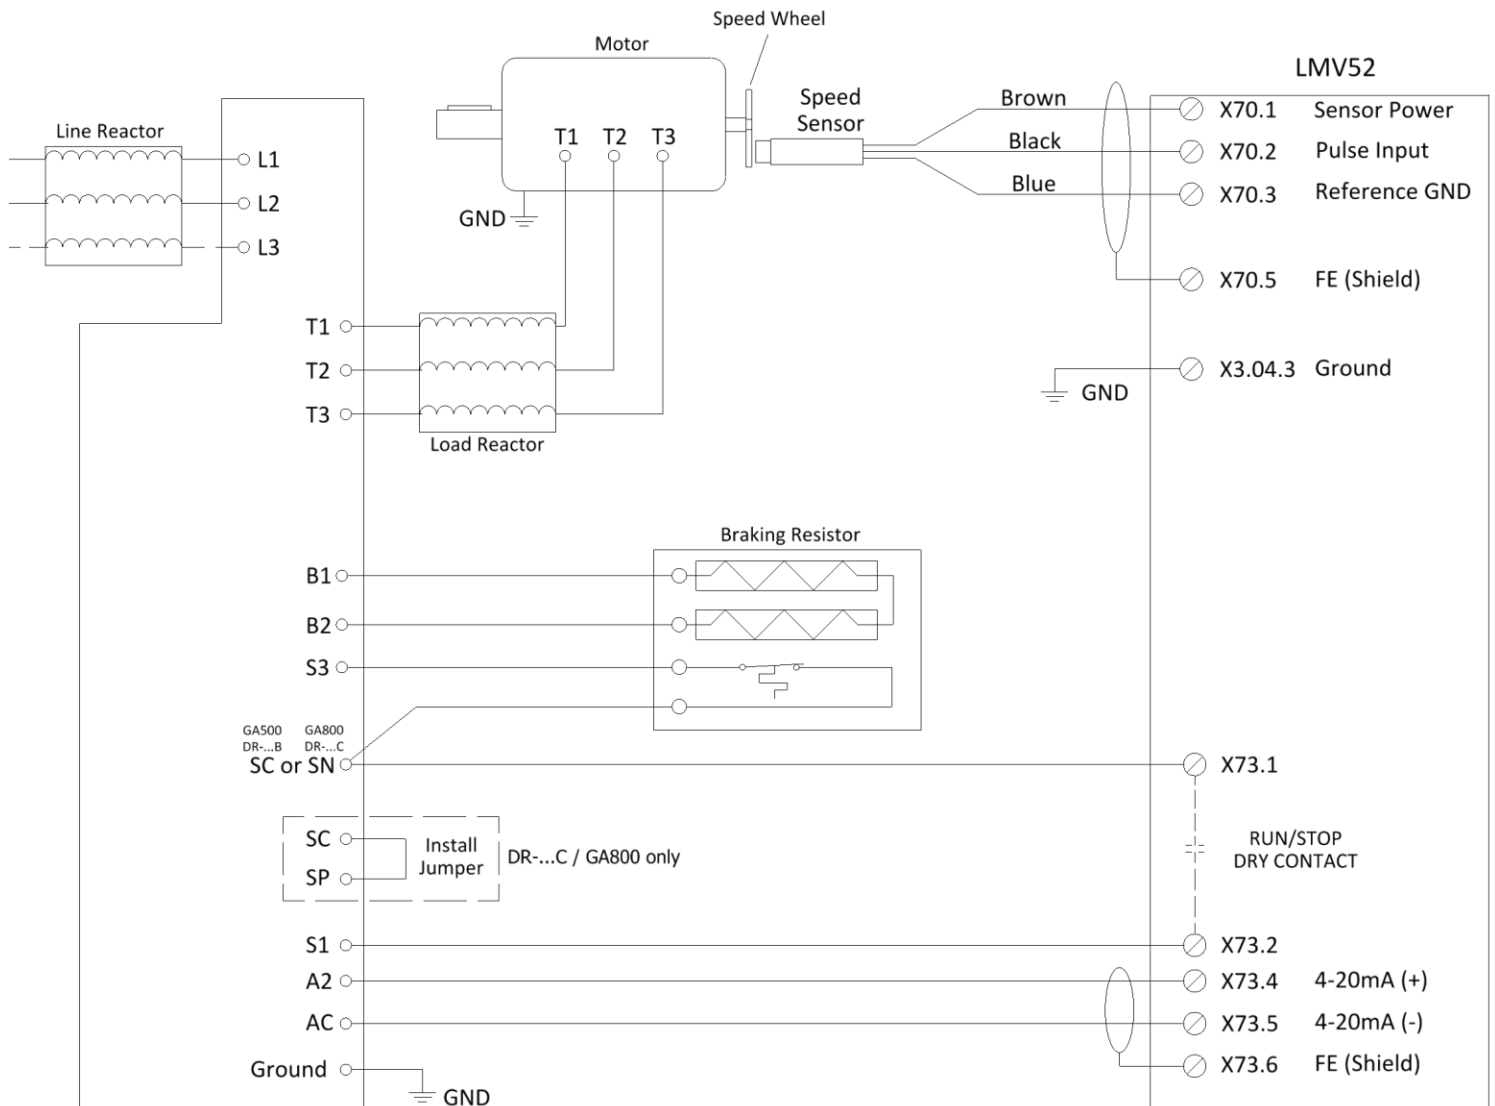

Figure 52: LMV52 Wiring to DR-...B (GA500) OR DR-...C (GA800) Drives
- If using a GA800/DR-...C the jumper must be installed as shown in Figure 52